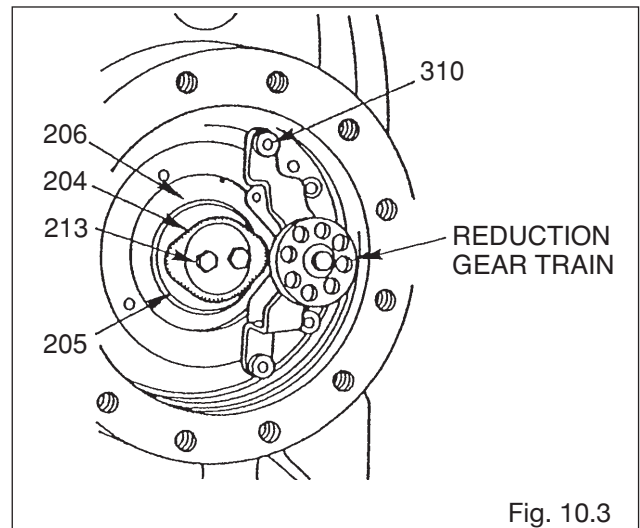

Fig. 10.3
- b) Remove uniform-motion drive gear (204): take off two bolts (213) and remove uniform-motion drive gear (204) complete with its boss (205).
- c) Draw bearing holder (206) out: take off two bolts and thread two of them into the jack screw holes (M12) provided to assist in removing the bearing holder (see Fig. 10.3).